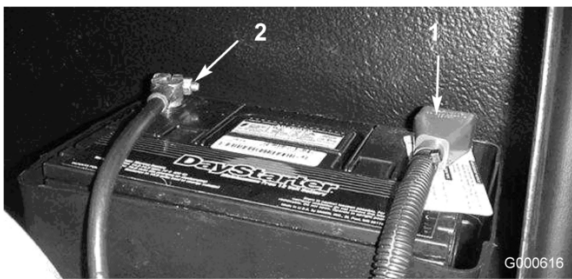

Figure 39
- Install the positive cable (red) to the positive (+) terminal and the negative cable (black) to the negative (-) terminal of the battery (Figure 39). Secure cables to posts with capscrews and nuts. Make sure that the positive (+) terminal is all of the way onto the post and the cable is positioned snug to the battery. The cable must not contact the battery cover. Slide the rubber boot over the positive terminal to prevent a possible short from occurring.